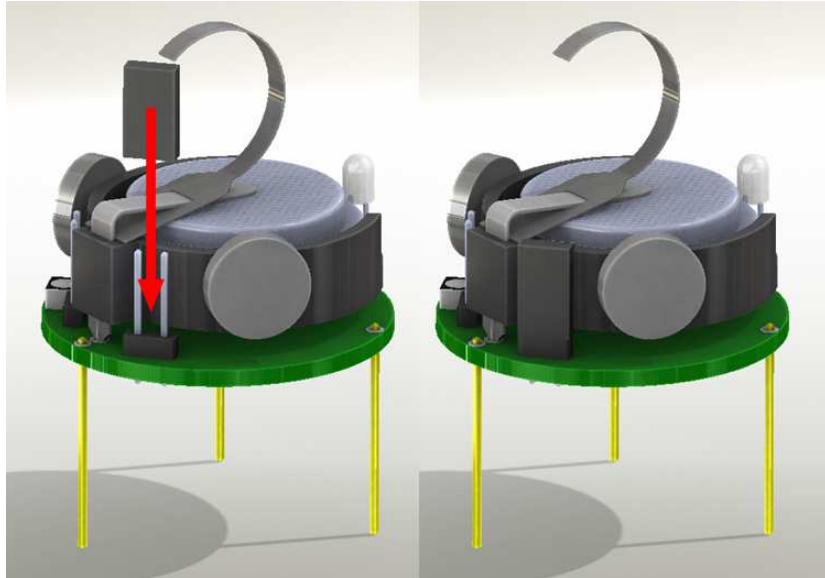

Figure 4.4: power jumper
4. Turn on the robot by adding the power jumper as shown in figure 4.4.
3. Switch the Kilobots on (put the power jumper as in figure 4.4).